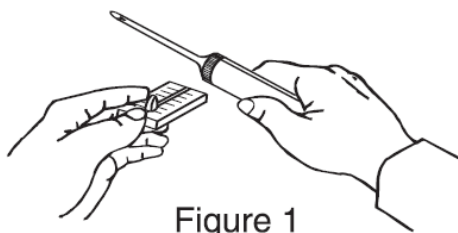

Figure 1
3. To load the Compudose Implanter, pull implant plunger to back of implanter. Remove protective cover from cartridge and insert into implanter (**see Figure 1**). Push plunger forward until implant lies in the barrel of the needle (first “click” of implanter) in preparation for implanting. To load additional implants, pull plunger back and then advance knob on cartridge to next position.